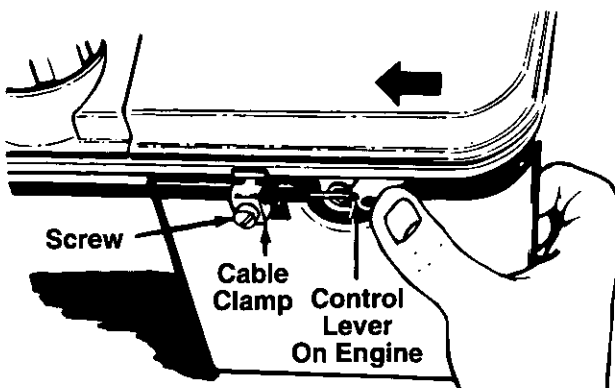

FIGURE 15.
- Remove the screw shown in figure 15. Remove the cable clamp from the cable.